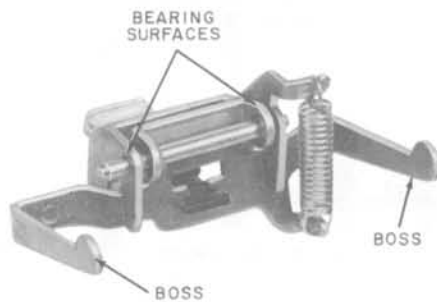

Fig. 13—Operating Bracket Switch Assembly, 500- and 501-Type Telephone Sets
- Clean with KS-2423 cloth moistened with KS-7860 petroleum spirits and lubricate bearing surfaces with a No. 2 or softer graphite pencil (Fig. 13 and 14).
- 4.07** Operating Bracket Switch Assembly: Should function throughout entire travel without binding or squeaking. Clean bosses on operating bracket arms, spring anchor points, operating bracket, and shaft bearing points with KS-2423 cloth moistened in KS-7860 petroleum spirits and lubricate bearing surfaces with a No. 2 or softer graphic pencil (Fig. 13 and 14).